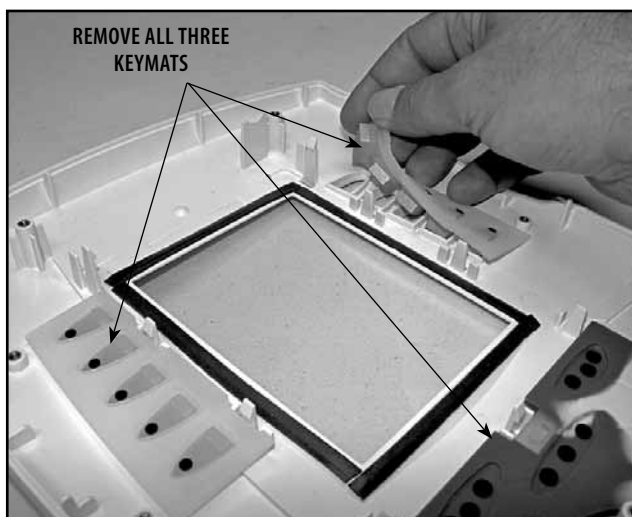

FIGURE 6.33
6. Remove Keymats from the System Top. See Figure 6.33.